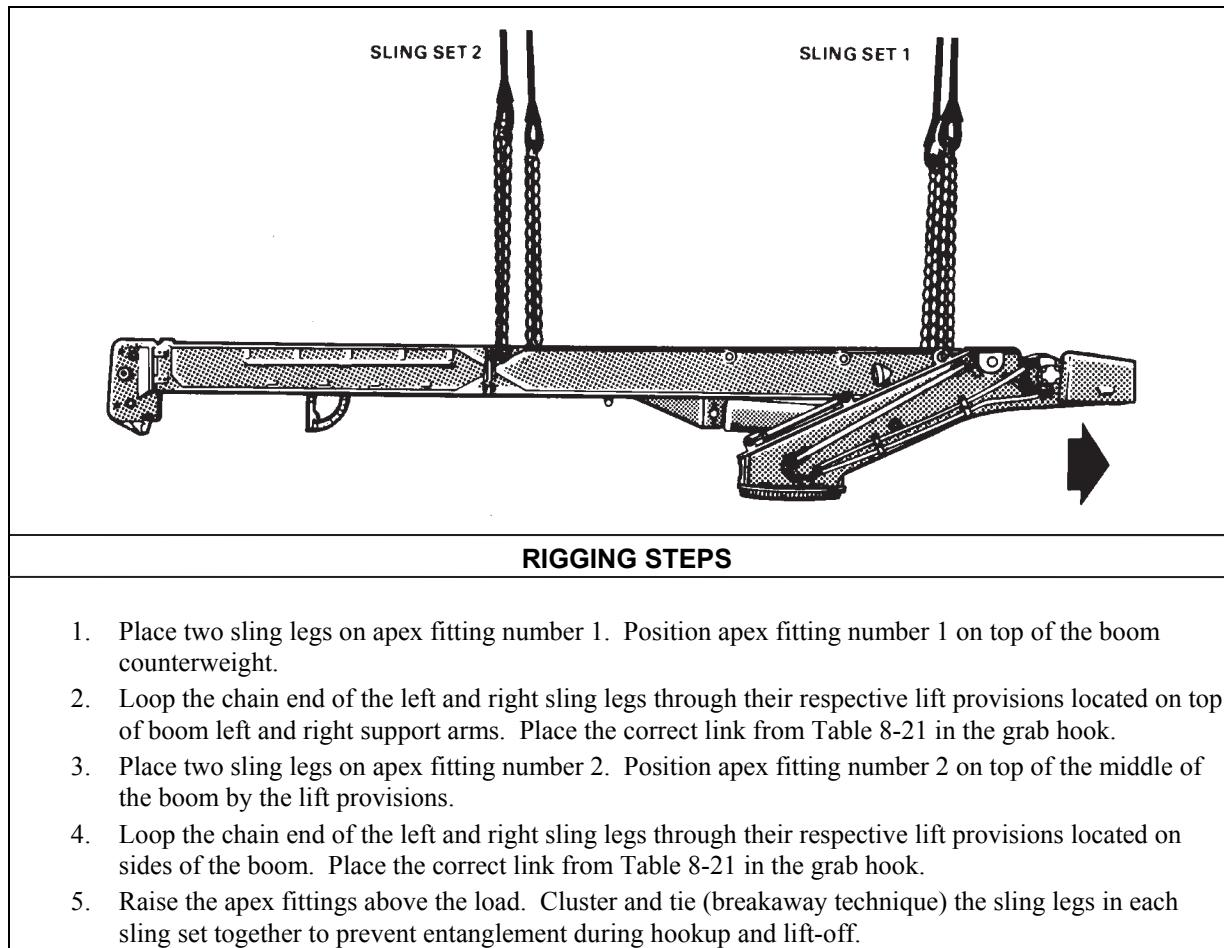

Figure 8-21. LRT-110, 7 1/2-Ton Crane Boom
- **Rigging.** Rig the load according to the steps in Figure 8-21.